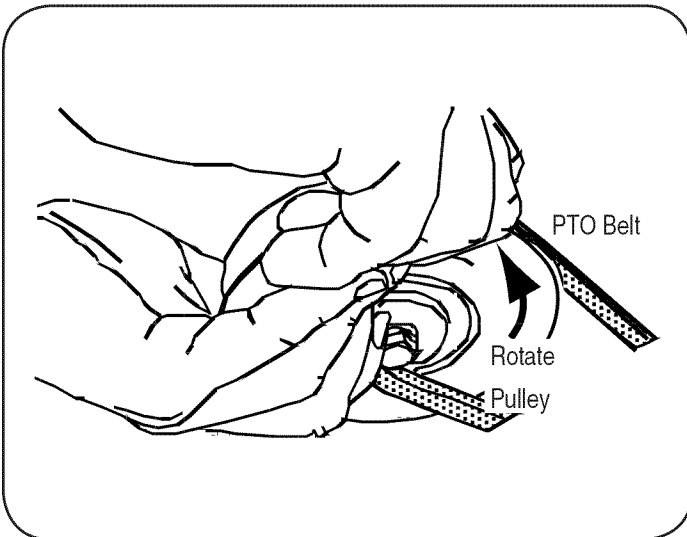

Figure 16
10. Pull the right side of the belt and place the narrow V side of the belt into the PTO pulley. See Figure 16.
11. While holding the belt and pulley together, rotate the pulley to the left (See Figure 16). Continue holding and rotating the pulley and belt until the belt is fully rolled into the PTO pulley.